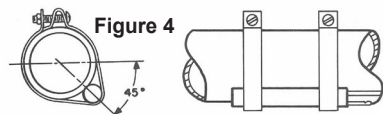

Figure 4
5. On lines 7/8" and larger, install bulb on lower half of the pipe at either 4 o'clock or 8 o'clock position. See figure 4.